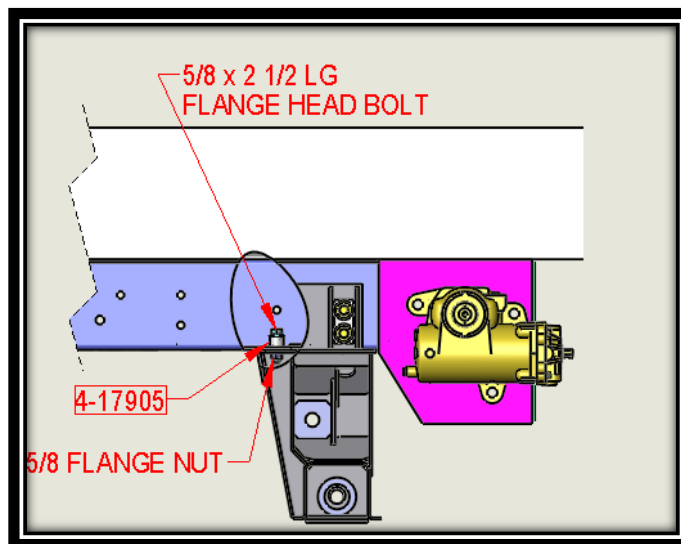

FIG. 6-2
8. Install 5/8 x 2 1/2 lg flange head bolt, spacer 4-17905, from inside of suspension mount & thru Ridewell suspension hanger. Install 5/8 flange nut torquing from inside to out, to 216 lbf-ft. (4) places. Refer to FIG. 6-2.